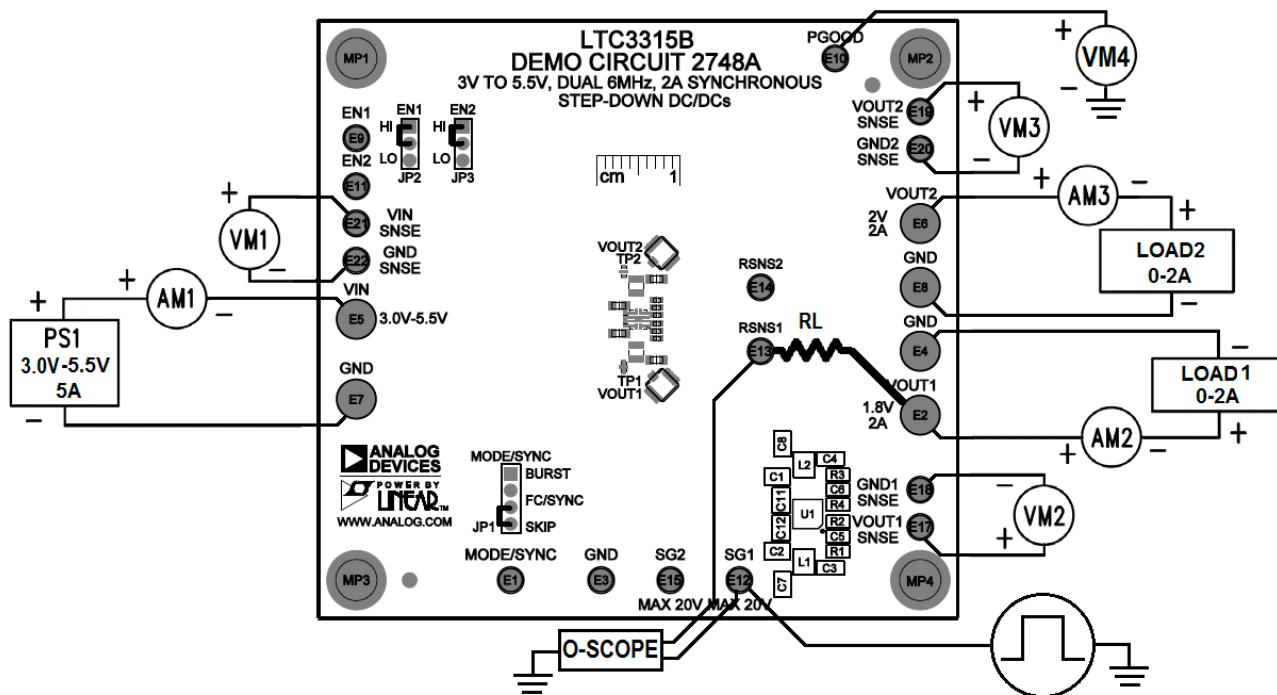
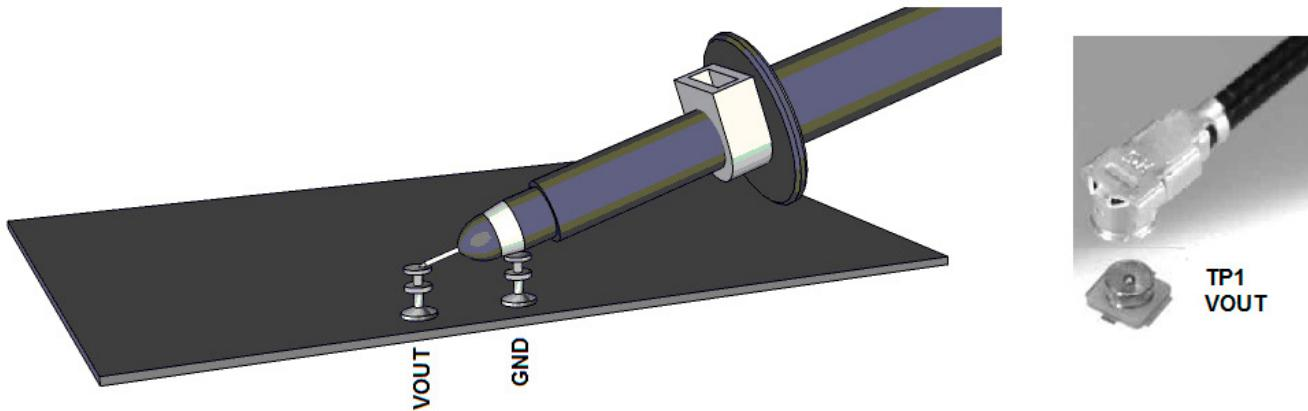

Figure 1. Proper Measurement Equipment Setup
Figure 2. Measuring Input or Output Ripple
The DC2748A is easy to set up to evaluate the performance of the LTC3315B. Refer to Figure 1 and Figure 2 for proper measurement equipment setup and follow the evaluation procedure below.
NOTE: For accurate V_{IN} , V_{OUT} and efficiency measurements, measure V_{IN} at the V_{IN} SNSE and GND SNSE turrets and V_{OUT} at the V_{OUT} SNSE and GND SNSE turrets as illustrated as VM1, VM2 and VM3 in Figure 1. When measuring the input or output voltage ripple, care must be taken to avoid a long ground lead on the oscilloscope probe.
3. With power off, connect 0V to 6V, 5A power supply, PS1, between V_{IN} and GND with a series ammeter and a voltmeter as shown in Figure 1.
5. With power off, connect a 0A to 2A load to V_{OUT1} and GND with a series ammeter and a voltmeter as shown in Figure 1.
6. Turn on LOAD1 and slowly increase from 0A to 2A and observe the output voltage. The output ripple may also be observed using an oscilloscope with the probe connected as shown in Figure 2.
NOTE: Measure the output voltage ripple by touching the probe tip directly across the output turrets or to TP1 as shown in Figure 2. TP1 is designed for a 50Ω coax cable to reduce any high frequency noise that might couple into the oscilloscope probes.
8. With power off, connect a second 0A to 2A load to V_{OUT2} and GND with a series ammeter and a voltmeter as shown in Figure 1.
9. Turn on LOAD2 and slowly increase the from 0A to 2A and observe the output voltage. The output ripple may also be observed using an oscilloscope with the probe connected as shown in Figure 2.
15. To test the transient response with a base load, turn off LOADx (LOAD1 or LOAD2) and add the desired resistor to produce a minimum load between V_{OUTx} and RSNSx turrets (RL shown on Figure 1). Note that the total load resistance will be RL plus RSNSx ($100m\Omega$).